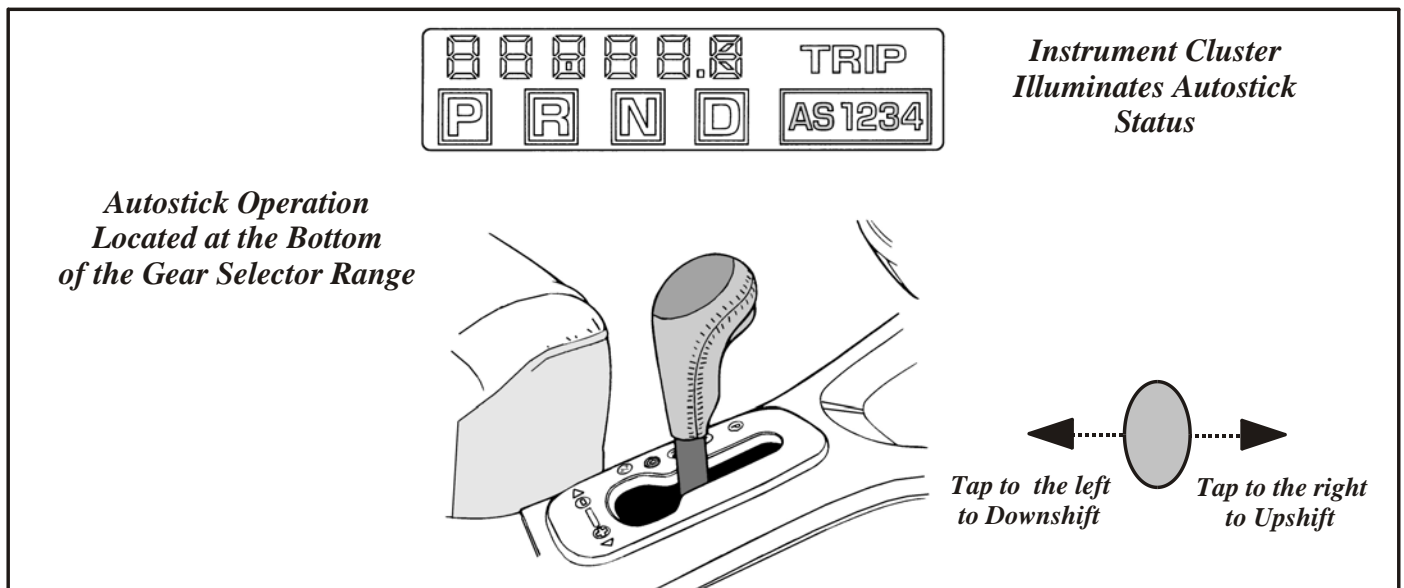

Figure 1
**NEW FOR 1996:** Beginning in 1996, some models have an Autostick feature built into the gear shift lever (See Figure 1). Autostick is a driver-interactive transaxle feature that offers manual gear shift capability. When the shifter is moved into the Autostick position, the transaxle remains in whatever gear it was using before Autostick was activated. Moving the shifter to the left (towards the driver) causes a downshift, and moving it to the right (towards the passenger) causes an upshift. The instrument cluster will illuminate the selected gear (See Figure 1). The vehicle can be launched in 1st, 2nd or 3rd gear while in the Autostick mode. Speed control will be deactivated if the transaxle is shifted to 2nd gear. Shifting into OD position cancels the Autostick mode, and the transaxle resumes the OD shift schedule. Some shifts are executed automatically or prevented. Automatic shifts will occur under the following conditions: